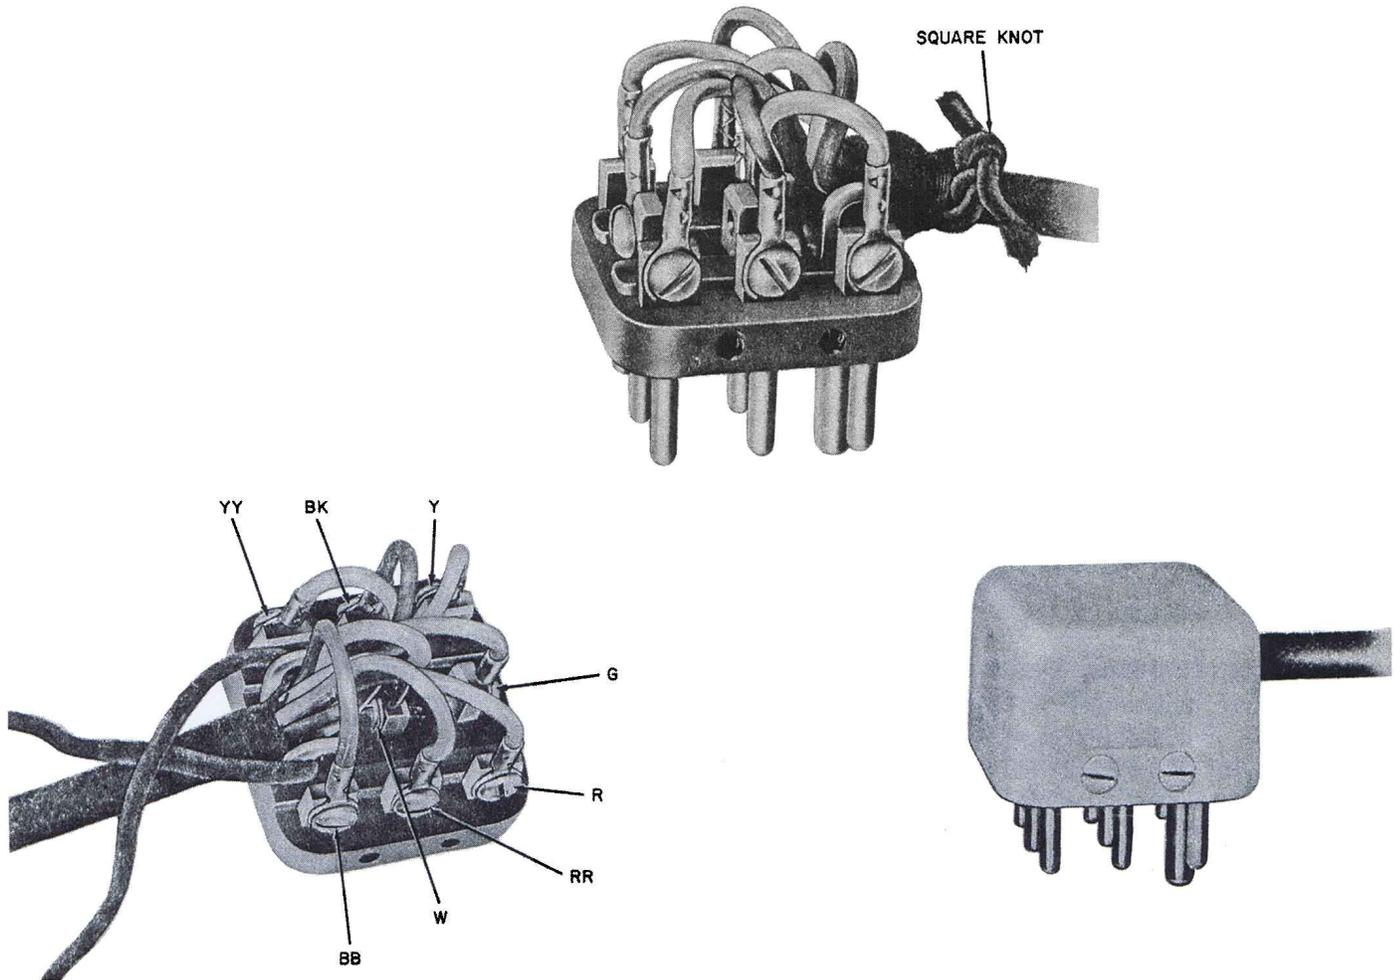

Fig. 1 — 274A Plug
**2.02** The 274A plug (Fig. 1) is a two piece, 8-contact plug of molded plastic. It is intended for use with braided fabric covered mounting cords and is equipped with two eyes to which the braid is secured. It is available in color as shown in Table A.